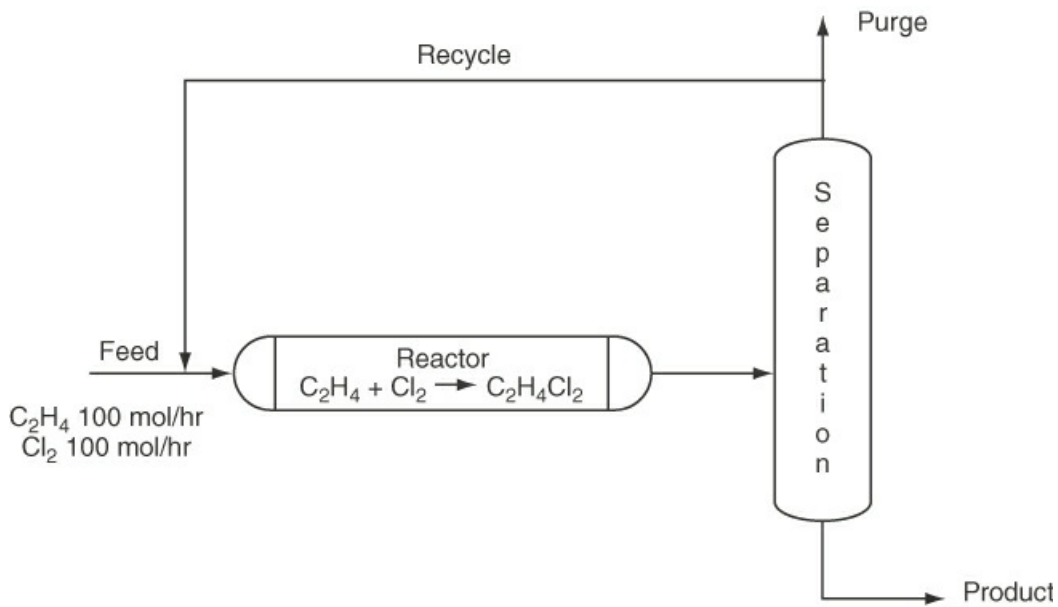

Figure P5.2.2
****5.2.2** Figure P5.2.2 shows a simplified process to make ethylene dichloride ($\text{C}_2\text{H}_4\text{Cl}_2$). The feed data have been placed on the figure. Ninety percent conversion of the C_2H_4 occurs on each pass through the reactor. The overhead stream from the separator contains 98% of the Cl_2 entering the separator, 92% of the entering C_2H_4 , and 0.1% of the entering $\text{C}_2\text{H}_4\text{Cl}_2$. Five percent of the overhead from the separator is purged. Calculate (a) the flow rate and (b) the composition of the purge stream.